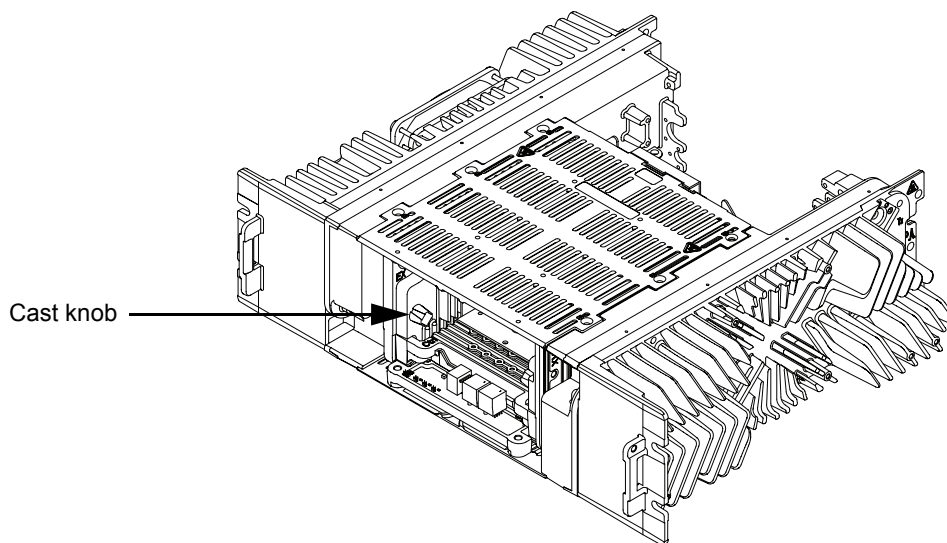

Figure 9-2. Removing RF cable
2. Disconnect the Exciter-to-PA Coaxial Cable and Rx Input Cable (Refer to Figure 9-2). By disconnecting the cables, the Exciter Module, Receiver Module, Station Control Module (SCM) are accessible.